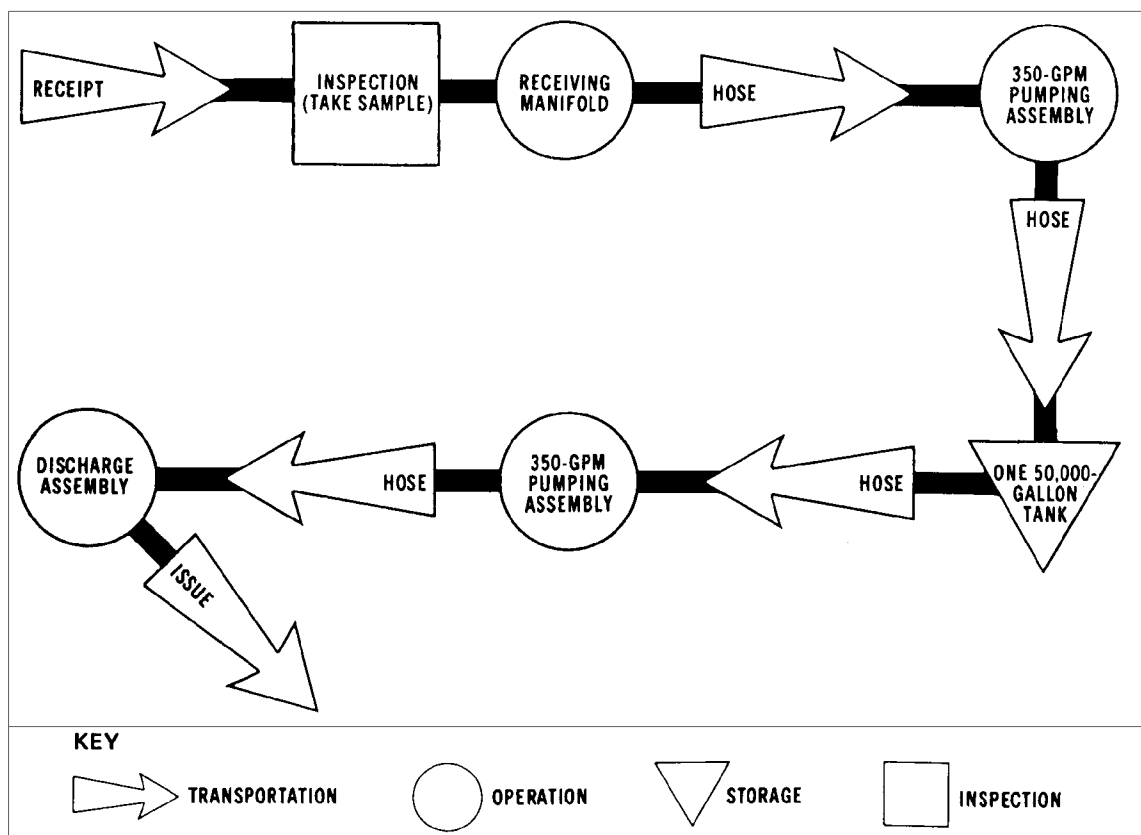

Figure 5-1. Flow process chart for a 50,000-gallon collapsible tank.
**Flow Through the 50,000-Gallon Collapsible Tank.** The first step is the inspection of the product. The fuel then enters from the transporter through a receiving manifold made up of a suction hose and gate valve. The product usually moves under suction from a 350-GPM pumping assembly that distributes it into the 50,000-gallon collapsible tank. Another 350-GPM pumping assembly acts as a discharge pump and distributes the fuel from the tank to the discharge hose assembly. The discharge hose assembly consists of a gate valve and discharge hose. From the discharge hose assembly, the product moves into a transporter (Figure 5-1)